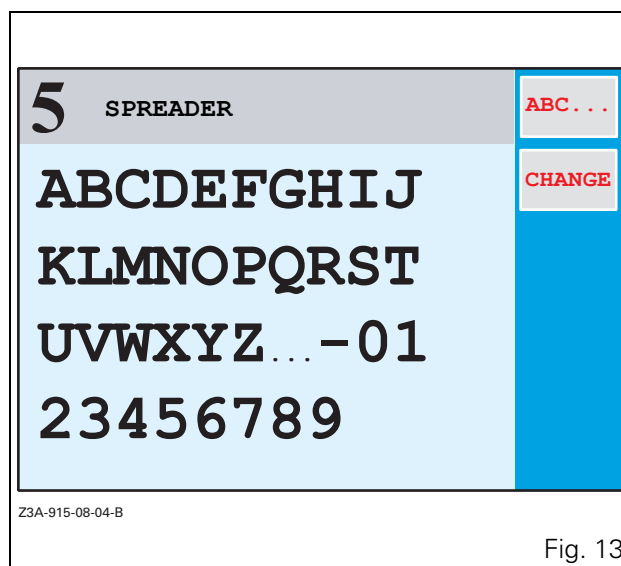

Fig. 13
- Press the key «₁ to display the memory naming menu. The window (Fig. 13) is displayed.